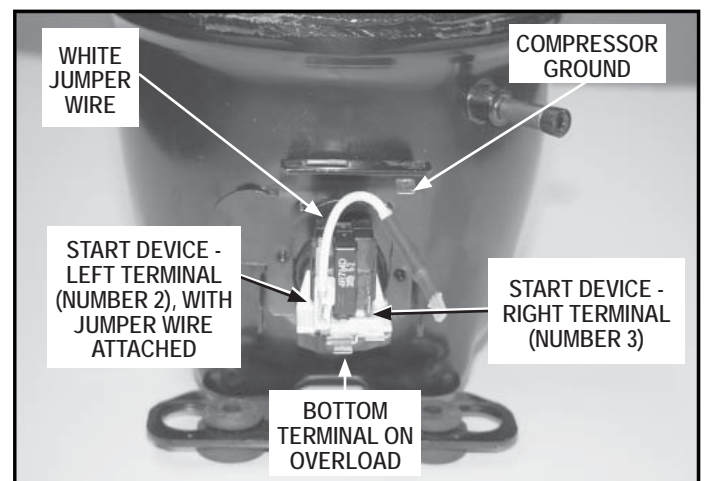

Figure 4
8. Install new jumper wire on left terminal (terminal number 2) on start device (See Figure 4).
9. Reinstall wire harness to the correct terminals as shown in wiring schematic (See Figures 4 and 5). Always refer to the diagram shipped with the product when performing any repair.